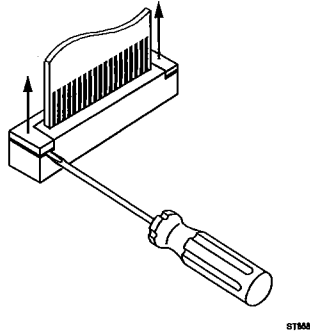

Figure 6-6. Flex Cable Connectors
2. Disconnect the blue keypad foil (item 4) flat cable, and the white LCD (item 6) flex cable. Unlock each cable by lifting the connector latch at the left and right edge using a small screw-driver, see figure 6-6. The latch remains attached to the connector body.